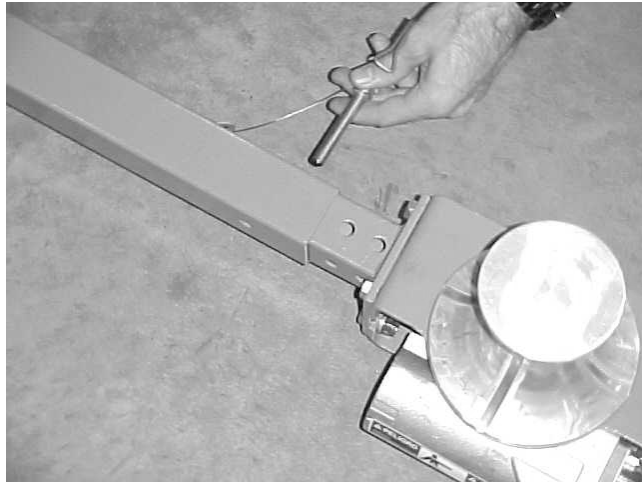

Figure 2
3. Remove Lock Pins from square adapter and slide over Mounting Tube on Power Unit. Reinstall Lock Pins. (See Figure 2)